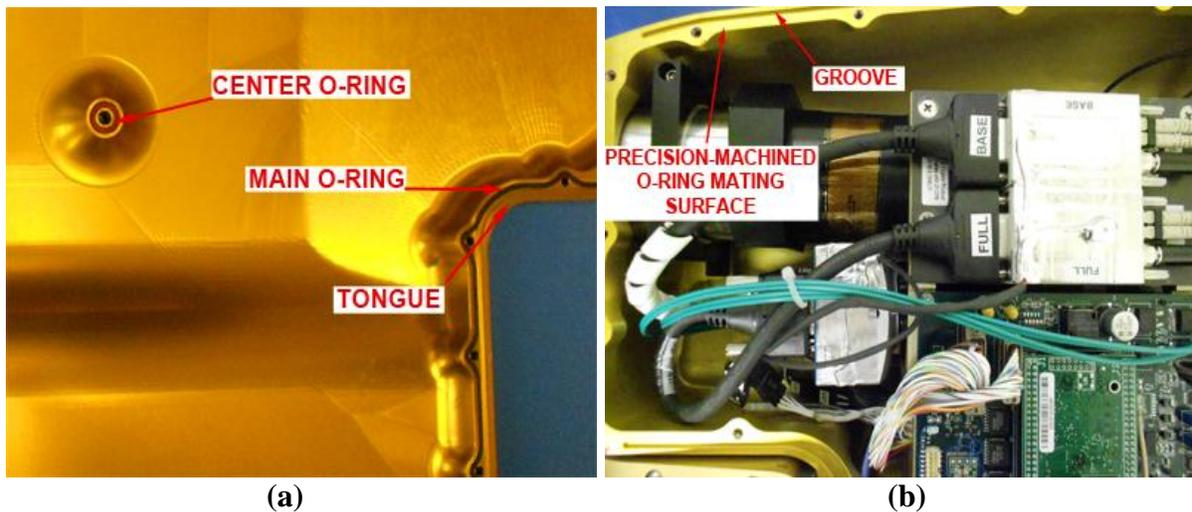

Figure 3.3.6. Locations of O-ring, tongue, and groove for mating of pylon cover and body.
7. Inspect the O-rings for wear that may occur over time. If the O-rings appear damaged, they should be replaced (**Figure 3.3.6** shows locations of the O-rings, and the parts of the pylon cover and body that mate together).
2. **Figure 3.3.6** shows the important areas of the pylon cover that must be aligned during installation of the pylon cover.
3. Hold the pylon cover and gradually lower onto the pylon body so the tongue and groove and pylon connector are aligned as shown in **Figures 3.3.6** and **3.3.7**. The O-ring must be fit inside the groove all the way around, or a proper seal will not be achievable.